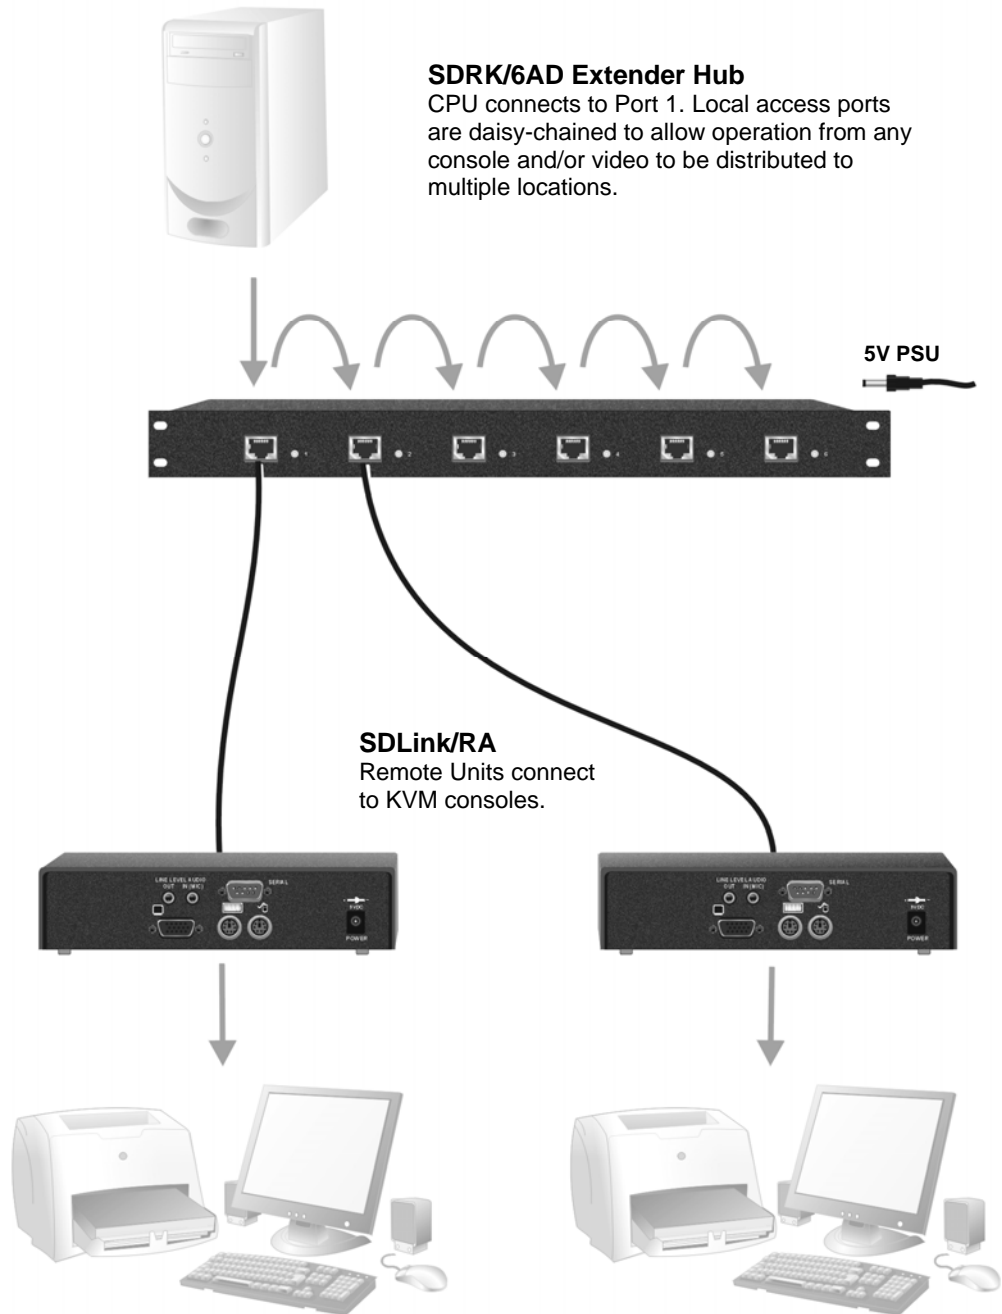

Figure 12 Information distribution system sharing a single PC
- Information distribution system sharing a single PC at up to six remote locations (Figure 12).